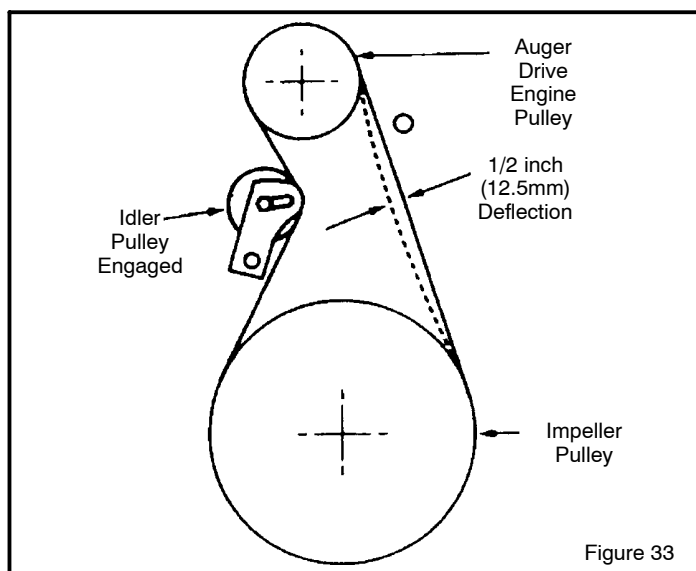

Figure 33
5. Have someone engage auger drive clutch. Check tension on belt (opposite idler pulley). Belt should deflect about 1/2 inch (12.5 mm) with moderate pressure (see Figure 33). You may have to move idler pulley more than once to obtain the correct tension.